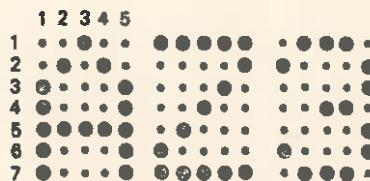

Fig. 36.20. A matrix 5 dots wide by 7 dots high (5×7).
- The most common display method is to generate characters from a *dot matrix*. A selected pattern of dots is illuminated to form a character (Fig. 36.20).